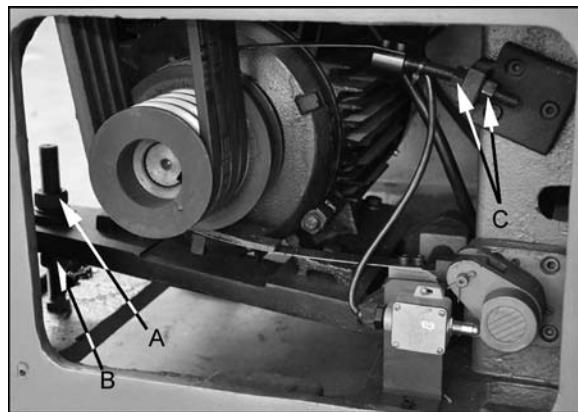

Figure 41 – Belt and brake strap adjustment
3. Loosen upper hex nut (A, Figure 41). Place scrap piece of wood under motor to act as lever. Lift motor up and block temporarily.
6. Tension belts by loosening lower nut (B, Figure 41) and tightening down upper nut (A, Figure 41) until light finger pressure causes approximately  $3/4"$  deflection on each belt.
After the clutch is disengaged, the main drive can be stopped by the brake. If the spindle does not stop rapidly, the brake strap may need adjustment. Use the two adjusting nuts (Figure 41) to tighten the strap. Do not overtighten the strap, which can cause it to distort.